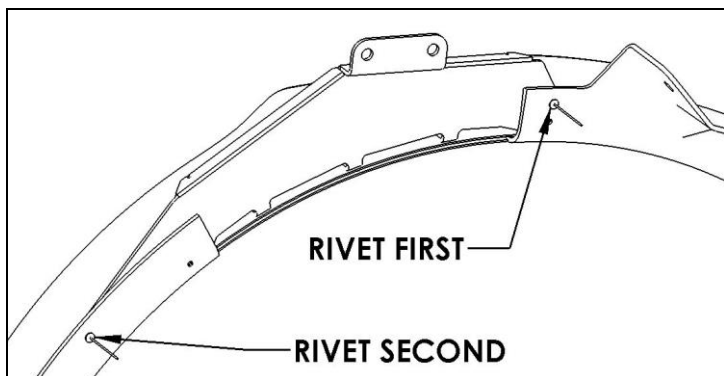

Figure 2.4
- ☐ Attach stiffener bracket to the fan shroud using the 2 drilled holes and supplied rivets as shown in Figure 2.4. Using the stiffener bracket as a template, drill and rivet each remaining hole individually before moving on to drilling and riveting the next hole. Start with the center bracket foot and work towards the ends of the bracket, alternating sides.